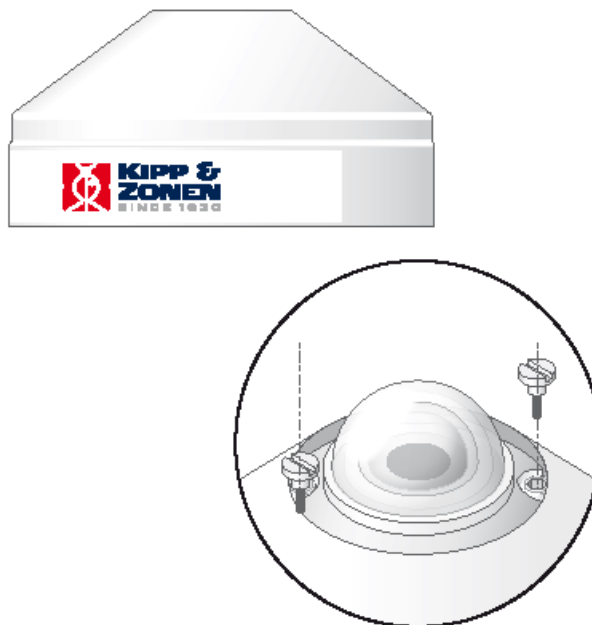

FIGURE A-4. Fastening cover on CVF3
7. Use the cover's screws to fasten the white cover to the pyranometer (see FIGURE A-4).